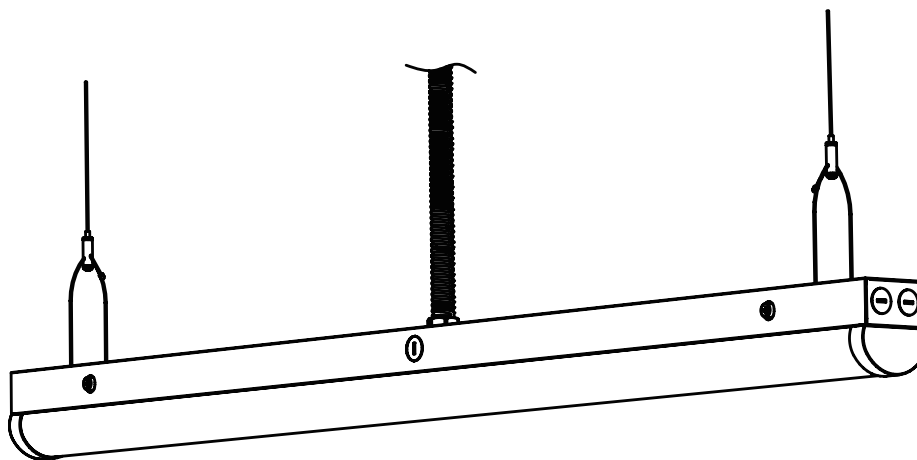

FIGURE 8
3. Press the screws on both sides of the luminaire by hand to open it. Connect the wires according to safety requirements and then install the luminaire body back to the chassis. (Figure 8)